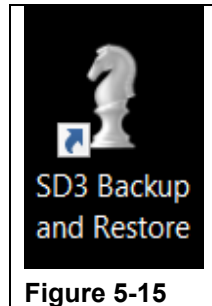

Figure 5-15
- Step 1. Start the "SD3 Backup and Restore" program by Double-Clicking on the correct Icon. (See Figure 5-15)